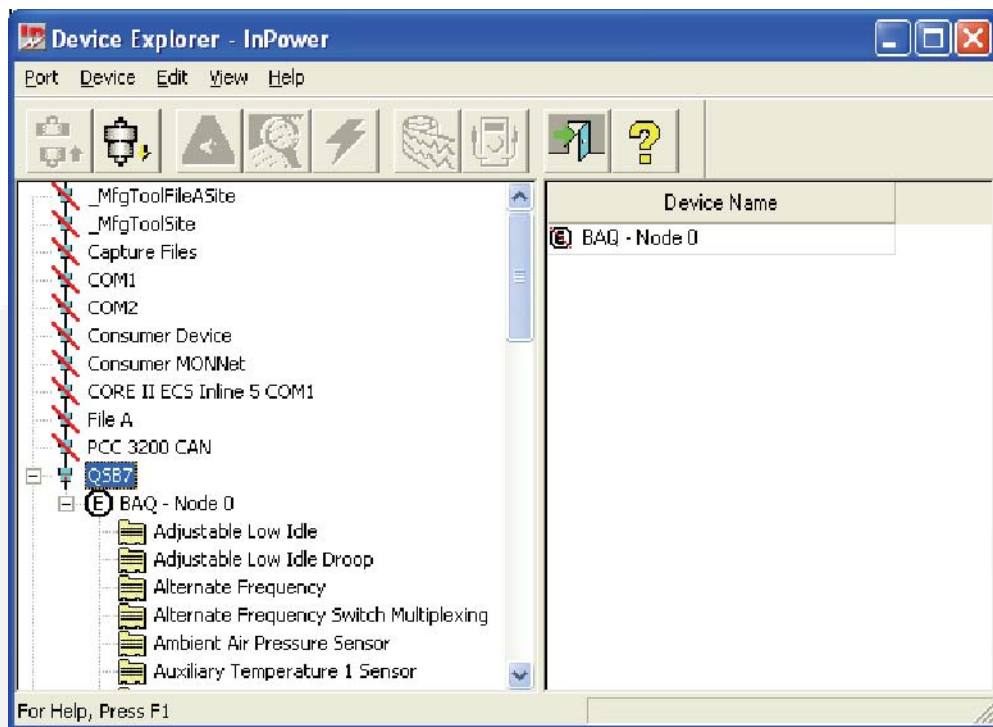

FIGURE 230. CONNECTING TO THE QSB7 SITE
4. Connect to the Site - QSB7 – The ECM(s) on the generator will be listed (Figure 230).